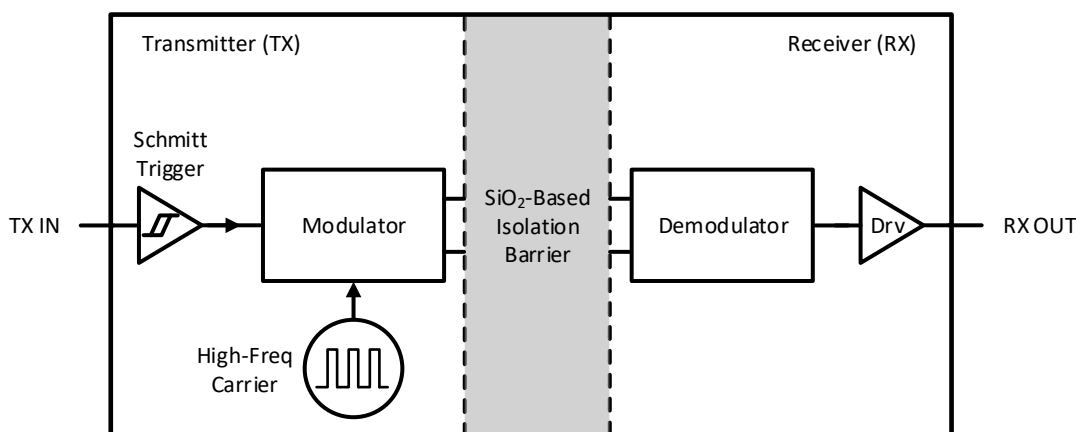
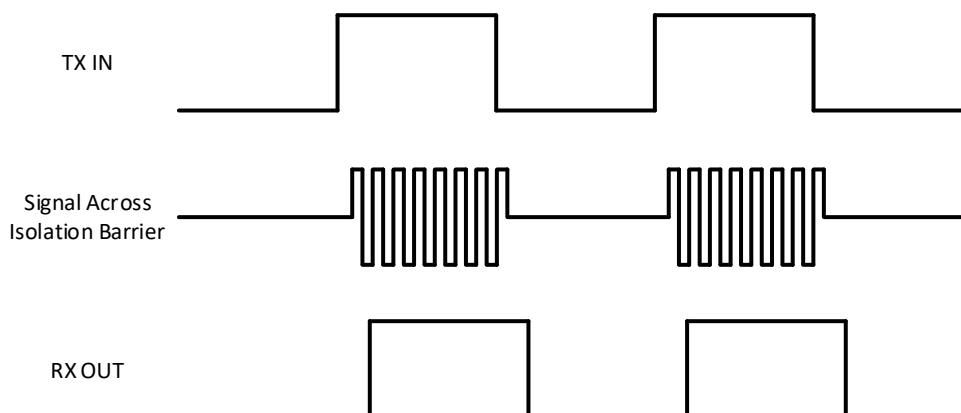

Figure 9-2 Block Diagram of an Isolation Channel
Figure 9-3 Conceptual Operation Waveforms of OOK Modulation Scheme
The CA-IS1300B25G-Q1 devices utilize a simple on-off keying (OOK) modulation scheme to transmit the digital bitstream across the SiO₂-based isolation barrier which supports up to 5-kV_{RMS} galvanic isolation between high- and low-voltage domain. The block diagram of an isolation channel is shown in Figure 9-2. As shown in Figure 9-3, the transmitter (TX) modulates the digital bitstream with a high-frequency carrier when the signal is HIGH while sends no signal when the signal is LOW. The receiver (RX)